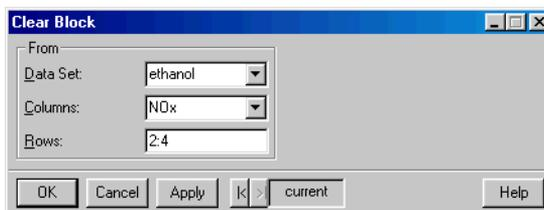

Figure 2.25: *The Clear Block dialog.*
- From the main menu, choose **Data ► Clear ► Block**. The **Clear Block** dialog opens, as shown in Figure 2.25.